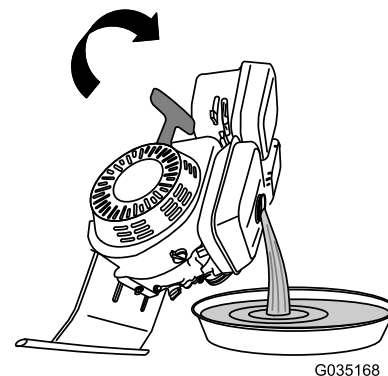

Figure 54
4. Rotate the engine on the hinge side of the engine deck and drain the fuel from the tank (Figure 54).